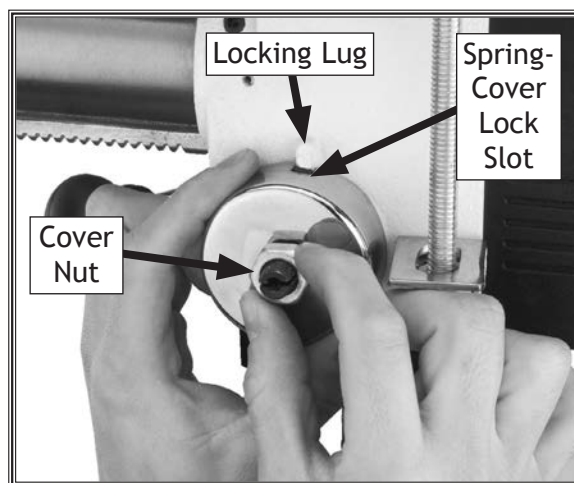

Figure 43. Hold the spring cover tightly while loosening jam nut and cover nut.
3. While holding the spring lock cover against the side of the headstock so the cover stays splined with the locking lug, as shown in **Figure 43**, loosen the jam nut and loosen the cover nut approximately $\frac{1}{4}$ " each.
5. Pull the cover outward just enough to disengage the spring-cover lock slot from the locking lug (see **Figure 43**).